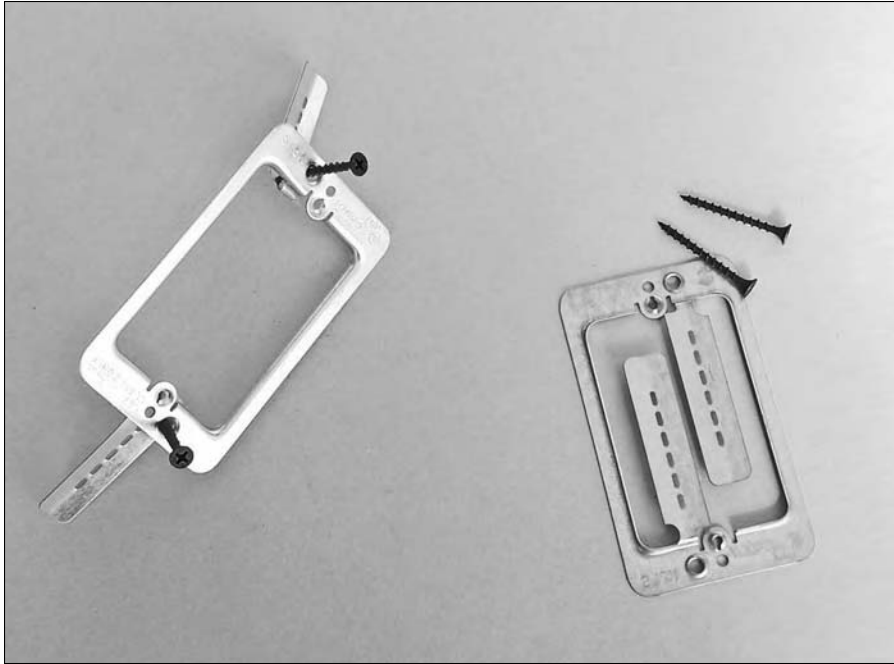

Figure 7-3:
LV rings hold your intercom components to the wall. Figure 7-3 shows two single-gang LV rings. The LV ring on the left shows the drywall tabs folded back, which you do after inserting into the hole cut in the wall. The tabs provide a catch for the drywall screw and, when tightened, firmly mounts the ring to the wallboard. The ring on the right shows how they come in the package.
- 2. Insert the LV ring in the hole and fold the tabs as shown on the left LV ring in Figure 7-3.**